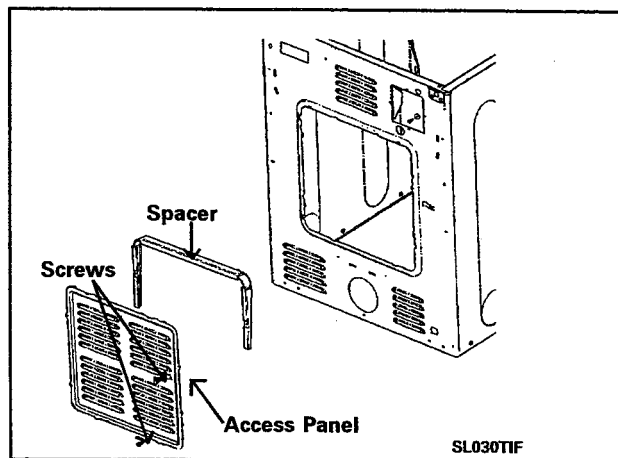

Figure 2-28
1. Remove the four hex-head screws surrounding the access panel (Figure 2-28).